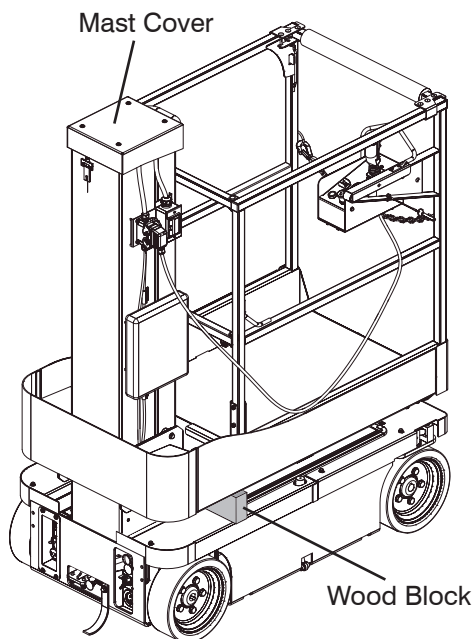

Figure 5-3. Limit Switch Inside the Mast Assembly
3. Place a 2 x 4 solid wood block, approximately 71 cm (28 in.) long, between base and platform (see Figure 5-3).
6. Locate and remove the mast cover (see Figure 5-3).